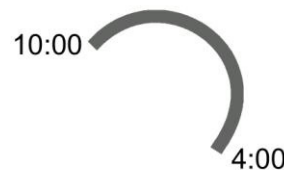

Fig. 9
6. Check the sweeping pattern, comparing it with a clock viewed driving forward. When set correctly, the sweeping pattern must make an impression on the floor between approx. 10:00 and 4:00 o' clock (Fig. 9).